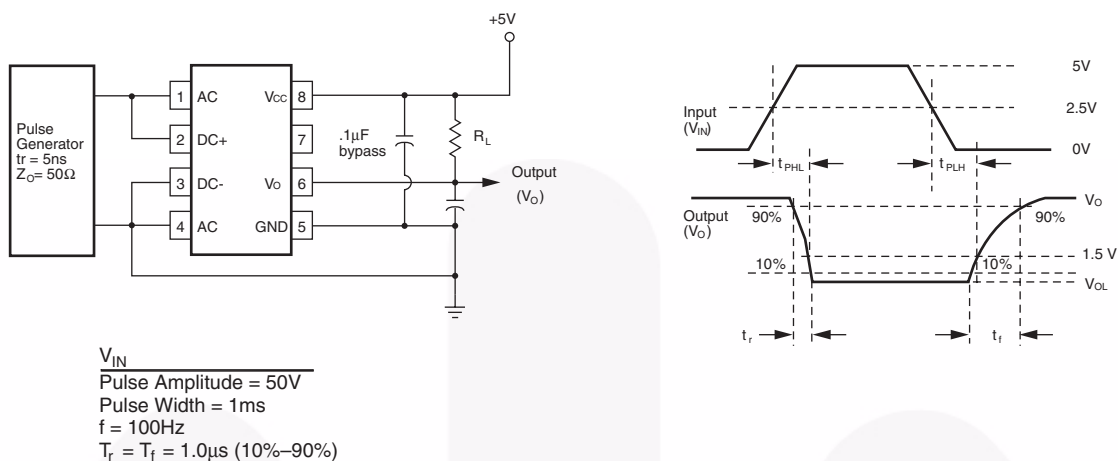

Fig. 9. Switching Test Circuit
- T_{PHL} propagation delay is measured from the 2.5V level of the leading edge of a 5.0V input pulse (1 μs rise time) to the 1.5 V level on the leading edge of the output pulse. T_{PLH} propagation delay is measured on the trailing edges of the input and output pulse. (Refer to Fig. 9)